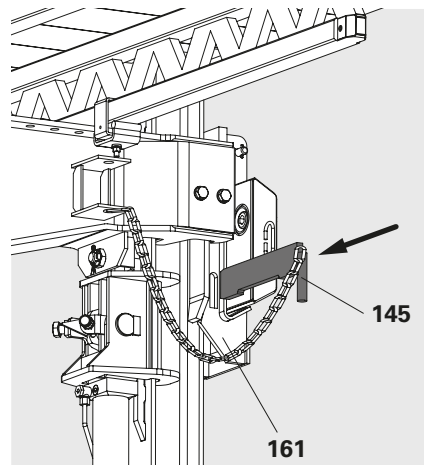
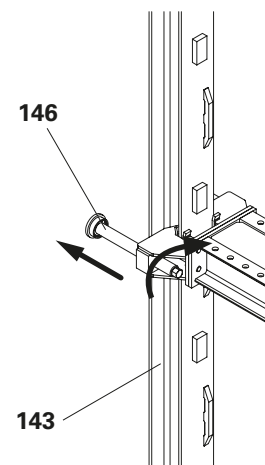

Fig. D2.05
Fig. D2.06
5. Insert Ledger ACS (145) into Climbing Shoe II (161). (Fig. D2.05)
6. Set the climbing unit down on the Ledger ACS (145).
7. Extend the Pressure Point Spindle M42 ACS (146) until the Climbing Rail ACS (143) swings freely and relieve the pressure on the Climbing Rail ACS (143). (Fig. D2.06)